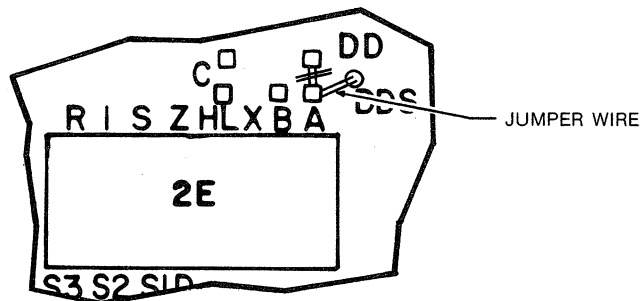

FIGURE 3-8. JUMPER PLUG SHUNT
2. Cut the trace at DD and jumper wire DDS to the pad at A. See Figure 3-8.